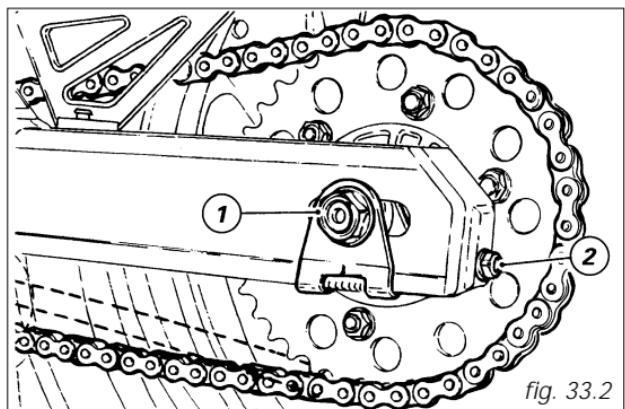

fig. 33.2
E To adjust chain tension, slacken the nut (1, fig. 33.2) of the wheel spindle. Then tighten similarly the screw (2) clockwise on both sides of the swing arm to increase or reduce chain tension. If you are slackening the chain, you will have to push the wheel forward.